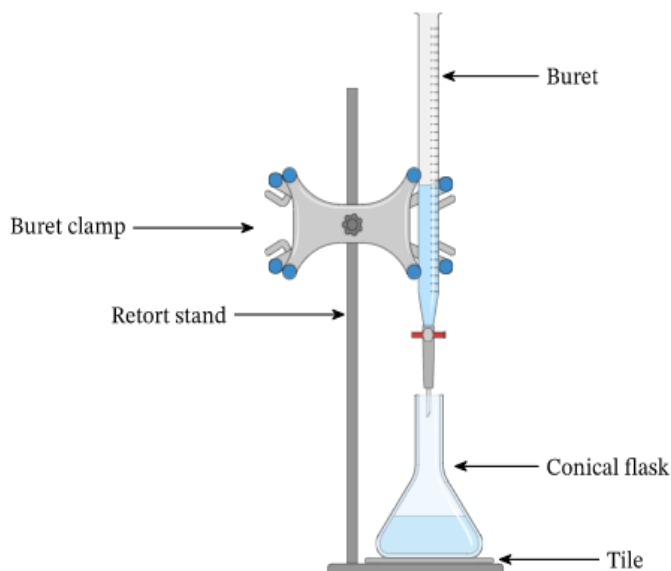

Figure 11.4: Determination of the percentage of purity of an impure sample
6. Add 1-2 drops of phenolphthalein indicator to the conical flask. Place the flask over the glazed tile as indicated in figure 11.4. What do you observe?